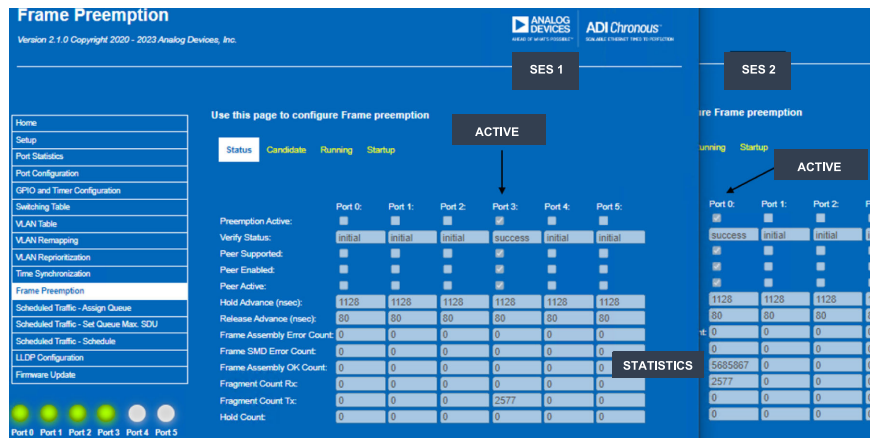

Figure 79. Status View with Preemption Enabled and visibility into Statistics
- ▶ Enabling Preemption in Switch 2 allows preemption to become active as shown in Figure 79.